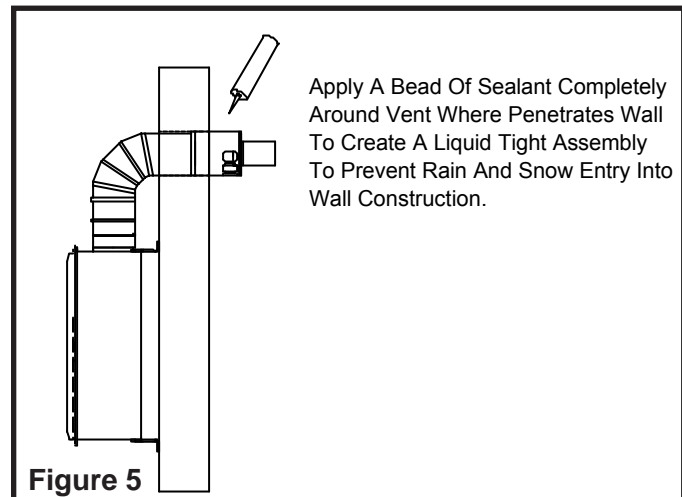

Figure 5
- 15) Using a general purpose silicone sealant approved for outdoor use, apply an adequate bead of sealant around the vent and exterior of the home (See **Figure 5**). Failure to properly seal this wall penetration will result in long term damage due to weather conditions.